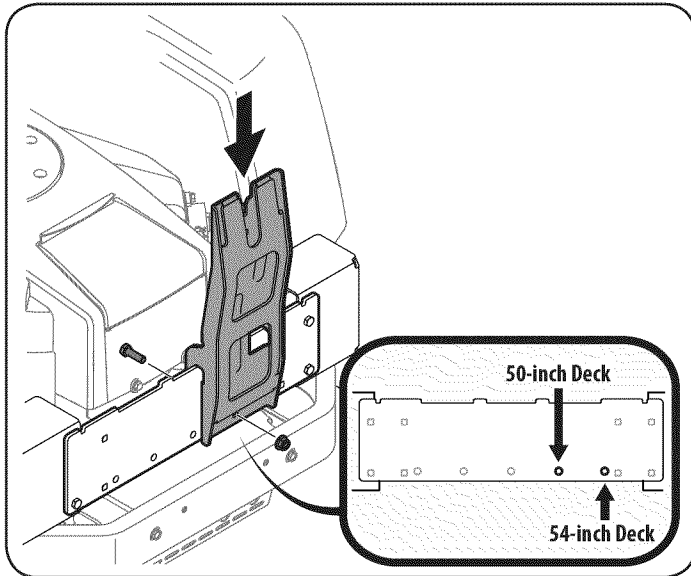

Figure 4
4. Install the upright support bracket onto the mounting assembly on the tractor by hooking it over the mounting assembly as shown in Figure 4.
5. Secure the upright support bracket to the mounting assembly in the mounting hole available for the deck size this bagger is being installed on. See Figure 4 for the proper mounting location. Use a 710-0376 hex bolt and 712-04063 flange lock nut from hardware pack 689-00320.